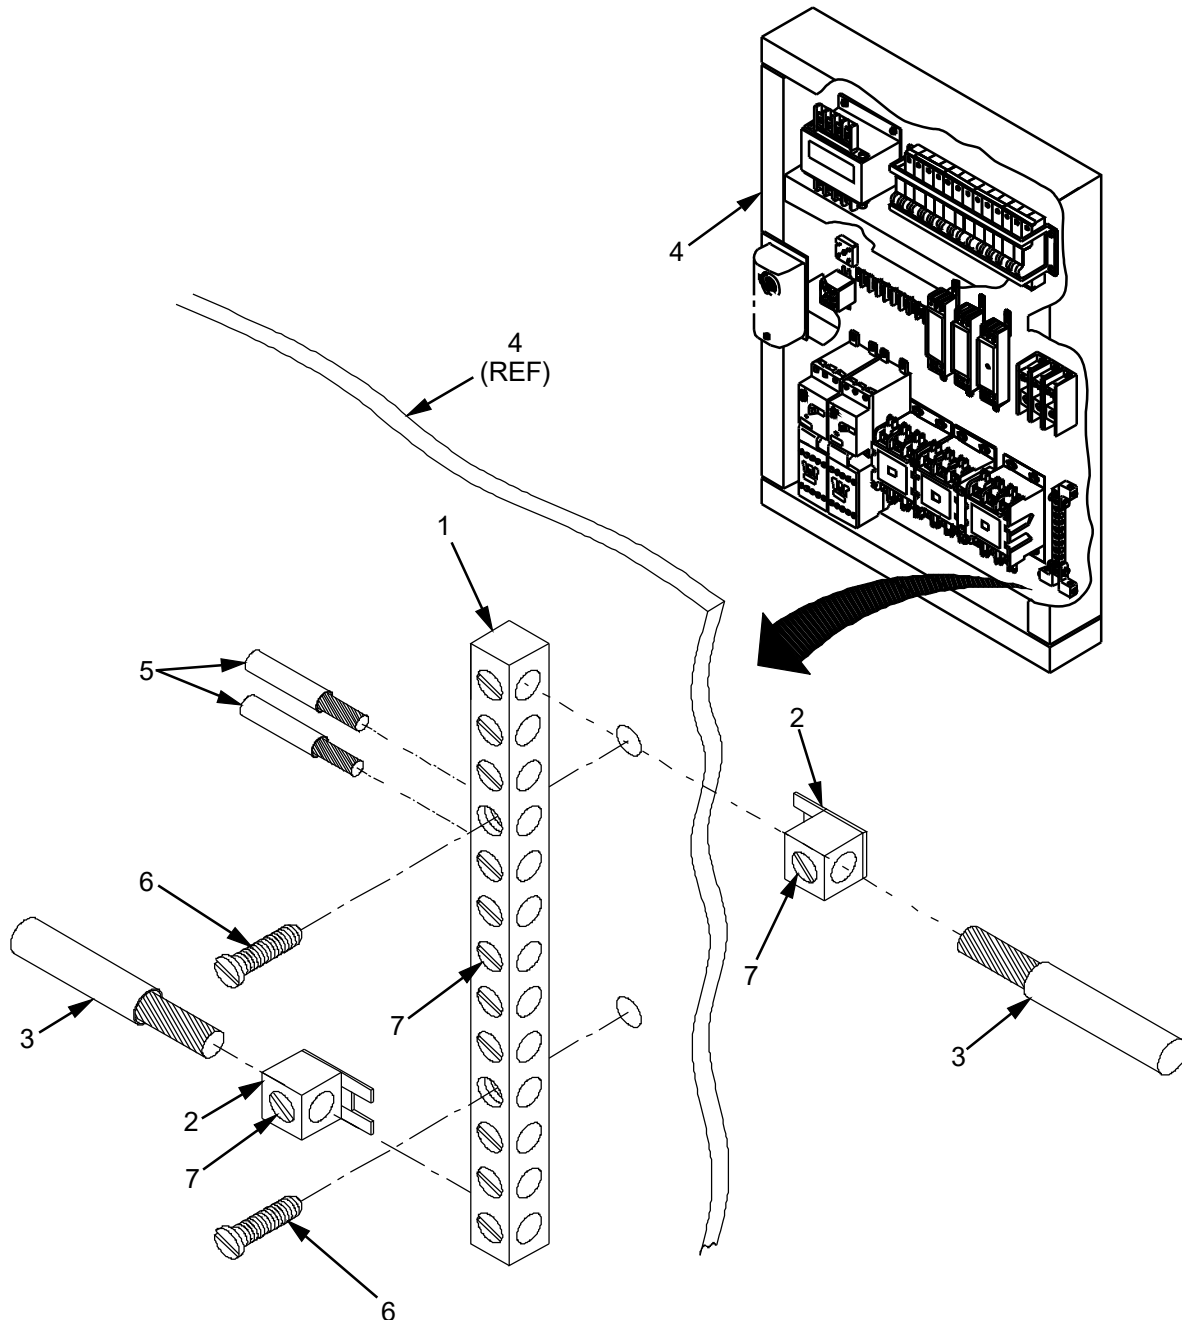
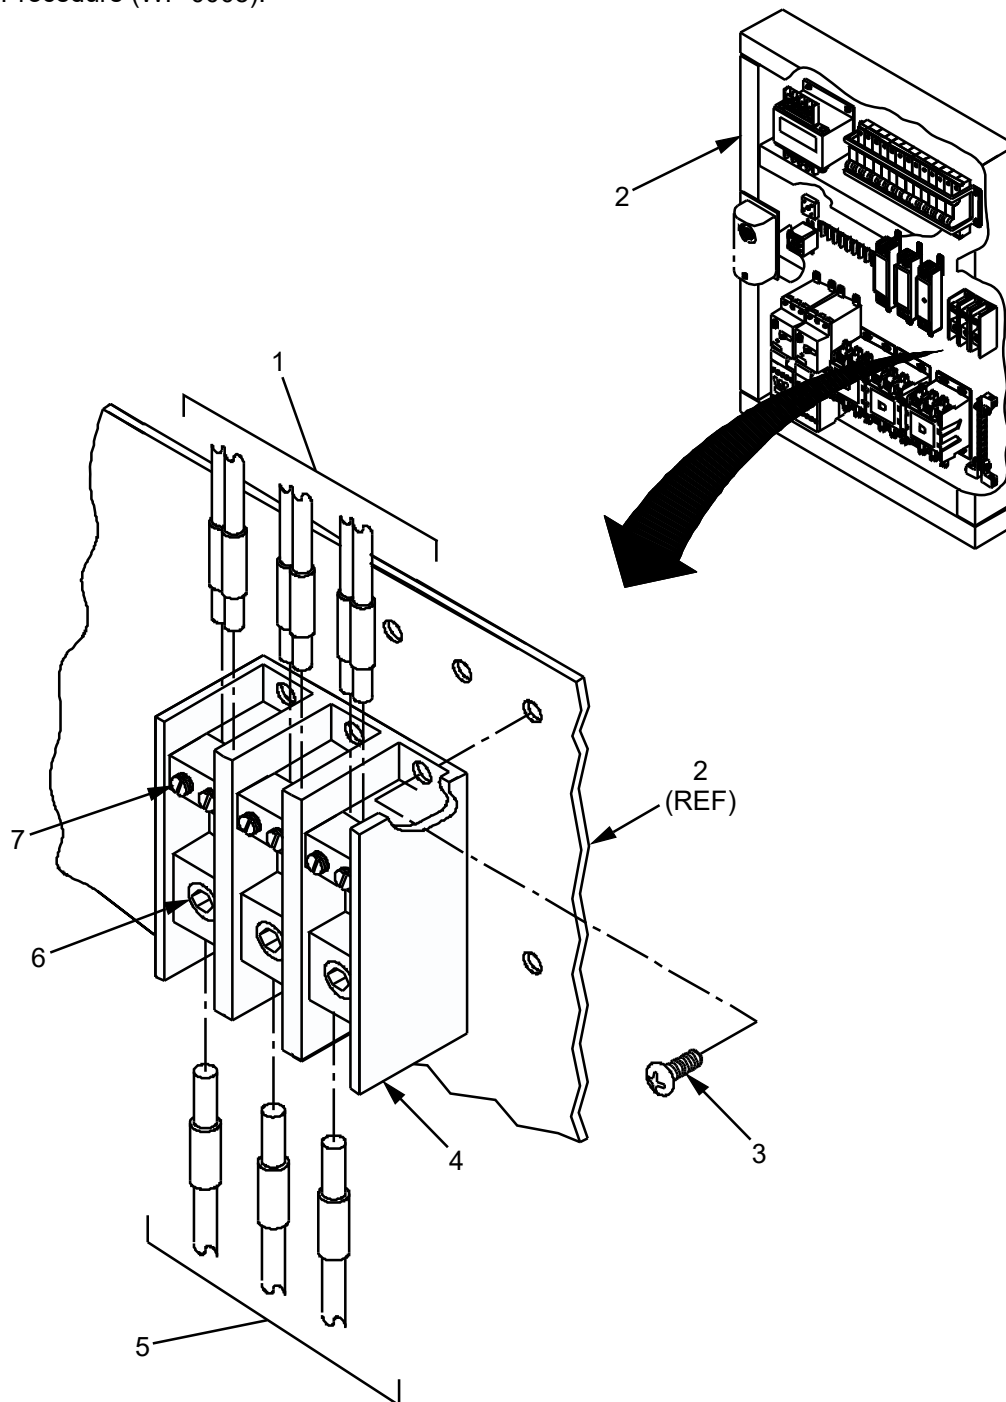

Figure 2. Grounding Block Removal/Replacement.
Figure 3. Power Distribution Block Removal/Replacement.
3. Verify that all electrical wires (Figure 2, Items 3 and 5) connected to the grounding blocks (Figure 2, Items 1 & 2) being replaced are properly identified.
4. Loosen but do not remove terminal screws (Figure 2, Item 7) and remove all electrical connections (Figure 2, Items 3 and 5).
5. Remove and retain two screws (Figure 2, Item 6) securing grounding blocks (Figure 2, Items 1 and 2) to control panel (Figure 2, Item 4). Remove grounding block (Figure 3, Items 1 and 2).
1. Install grounding block (Figure 2, Items 1 and 2) onto control panel (Figure 2, Item 4) and secure using two screws (Figure 2, Item 6).
2. Loosen but do not remove terminal screws (Figure 2, Item 7). Connect electrical wires (Figure 2, Items 3 and 5) and tighten terminal screws (Figure 2, Item 7).
3. Verify that all electrical wires (Figure 3, Items 1 and 5) connected to the power distribution block (Figure 3, Item 4) being replaced are properly identified.
4. Loosen but do not remove terminal screws (Figure 3, Items 6 and 7) and remove all electrical connections (Figure 3, Items 1 and 5).
5. Remove and retain four screws (Figure 3, Item 3) securing power distribution block (Figure 3, Item 4) to control panel (Figure 3, Item 2). Remove power distribution block (Figure 3, Item 4).
1. Install power distribution block (Figure 3, Item 4) onto control panel (Figure 3, Item 2) and secure using four screws (Figure 3, Item 3).
2. Loosen but do not remove terminal screws (Figure 3, Items 6 and 7). Connect electrical wires (Figure 3, Items 1 and 5) and tighten terminal screws (Figure 3, Items 6 and 7).